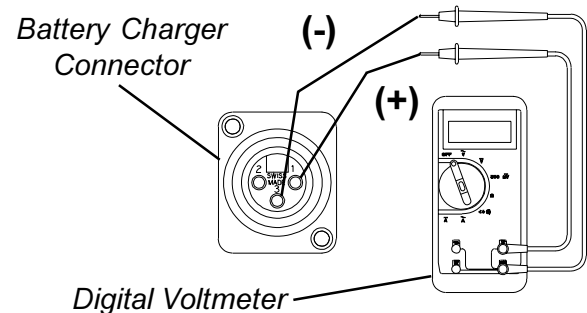

FIGURE 1 - FIELD LOAD TEST
**This Procedure Includes the Following:****Field Load Test****Using Hydrometer To Check Battery Cells (Lead Acid)****Motor Testing****Motor Brush Inspection****Electro-Mechanical Parking Brake Testing****FIELD LOAD TEST (FIGURE 1)**